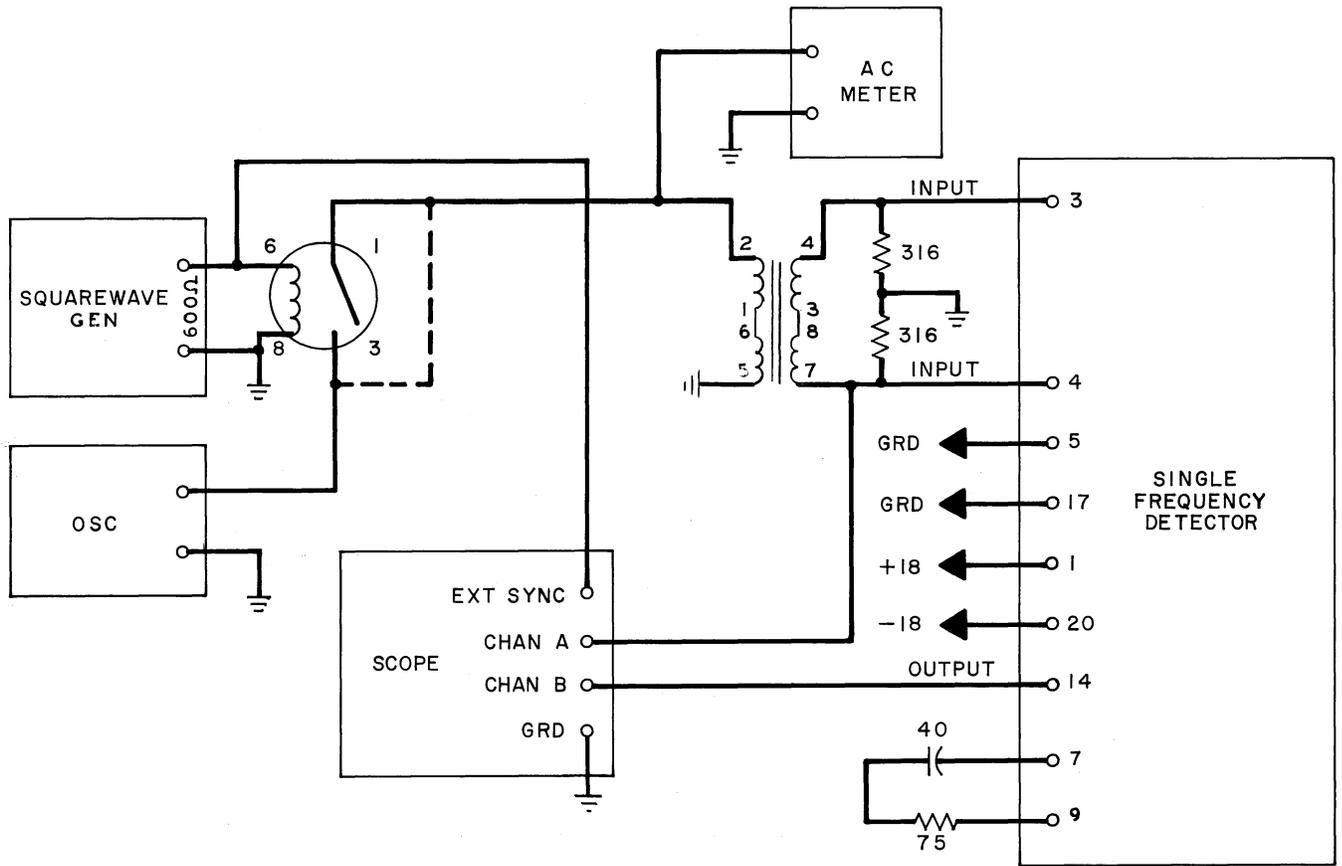
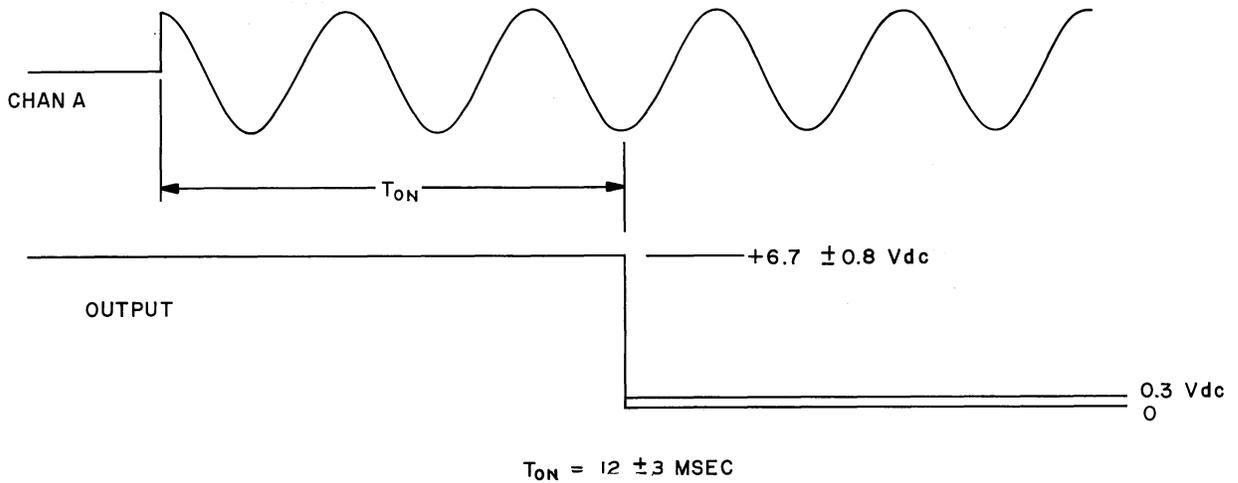

Fig. 10 - (Single Frequency Detector Test)
Fig. 11 - (Single Frequency Detector Test)
- (1) Connect the card as in the suggested test circuit shown in Fig. 10. Connect +18.0 \pm 0.5 volts dc to terminal 1, -18.0 \pm 0.5 volts dc to terminal 20, and ground to terminals 5 and 17. For this section of the test, place a short between pins 1 and 3 of the mercury relay.
- (2) Set the frequency of the sine-wave generator to 600 cps ± 5 per cent.
- (3) Set the amplitude of the input sine wave at the primary of the transformer to 1.25 \pm 0.05 volts rms.
- (4) The voltage between terminal 14 and ground shall be +6.7 \pm 0.8 volts dc.
- (5) Increase the amplitude of the input sine wave to 1.75 \pm 0.05 volts rms.
- (6) The voltage between terminal 14 and ground shall be less than or equal to +0.3 volt dc.
- (7) Reduce the amplitude of the input sine wave until the output on terminal 14 switches to +6.7 \pm 0.8 volts dc. The amplitude of the input sine wave at the point of switching shall be 1.5 \pm 0.25 volts rms.
- (1) Connect the card as in the suggested test circuit shown in Fig. 10.
(3) Temporarily short pin 1 to pin 3 of the mercury relay. Set the amplitude of the input sine wave at the primary of the transformer to 3.5 ± 0.05 volts rms. Remove the short between pins 1 and 3 of the relay.
(4) Set the frequency of the square-wave generator to 2.0 cps. Set the amplitude of the square-wave generator high enough to operate the mercury relay.
(5) Set the scope EXT SYNC TRIGGER to the (-) negative position. The output wave form at terminal 14 shall be as specified in Fig. 11.